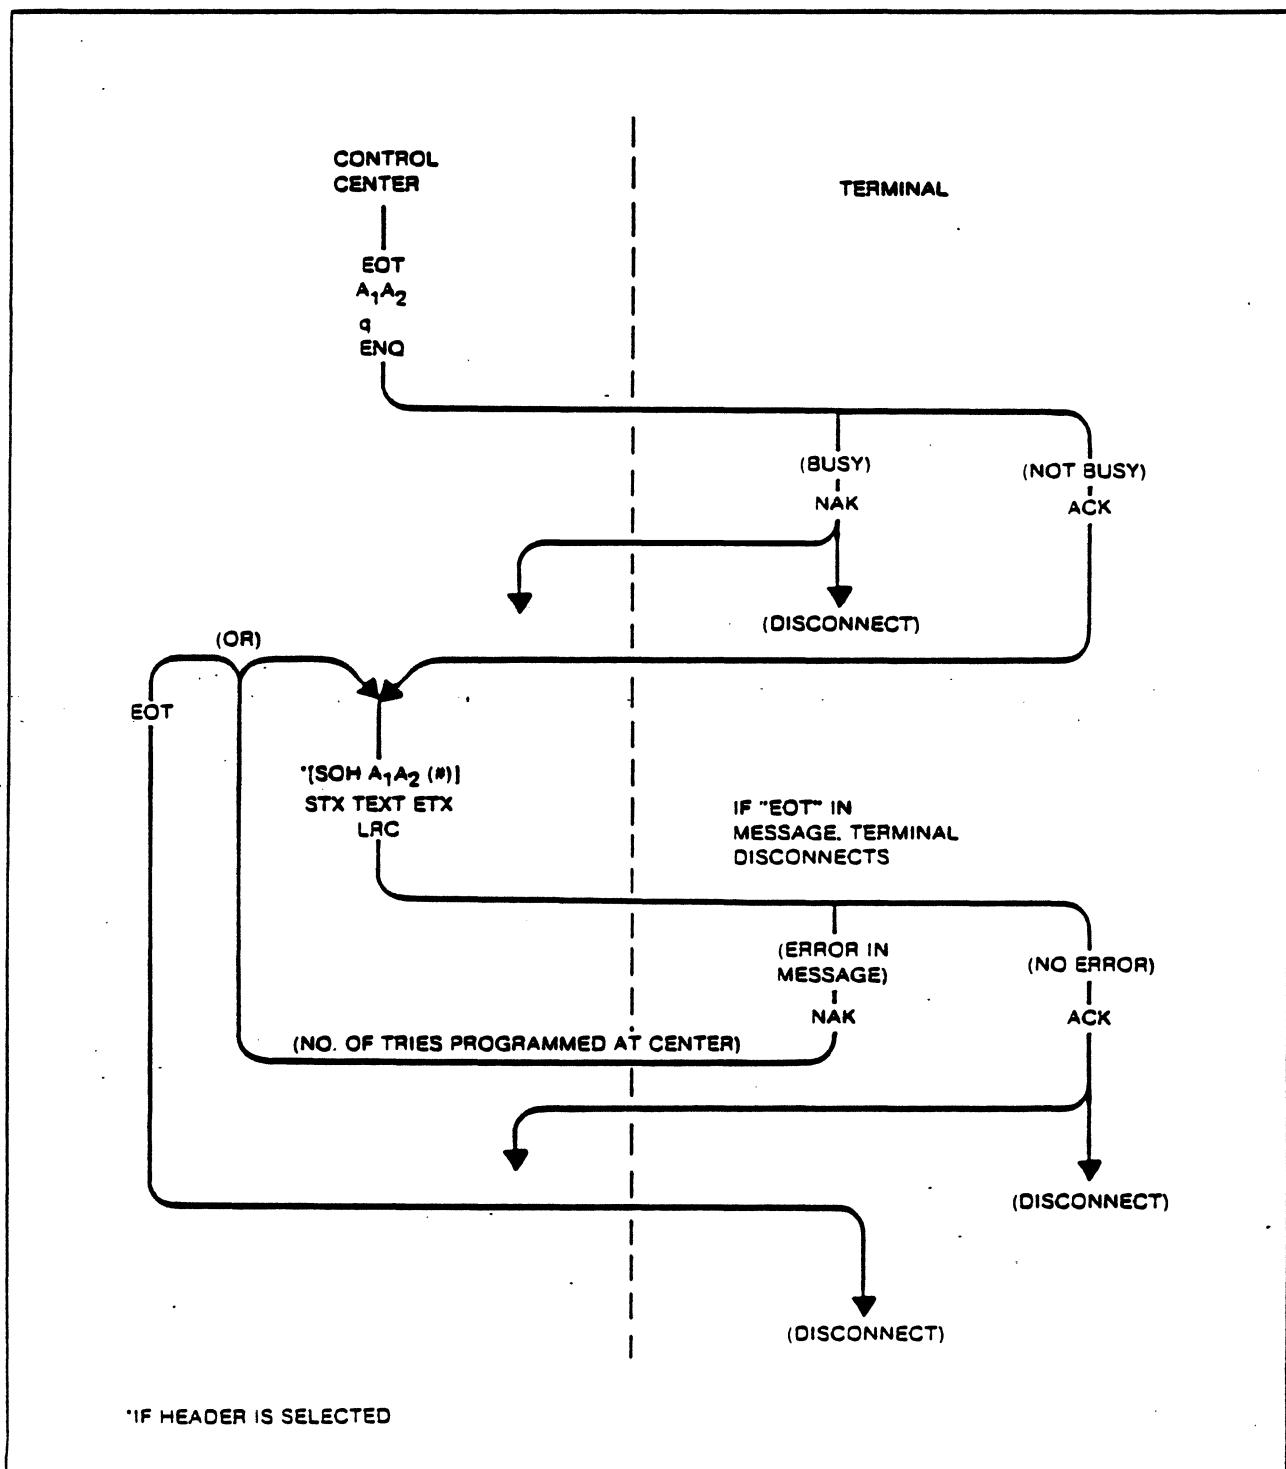

Figure 5-2. SELECT Function Dialogue, Flow Diagram
5.1.6 SELECT Responses (See Figure 5-2)